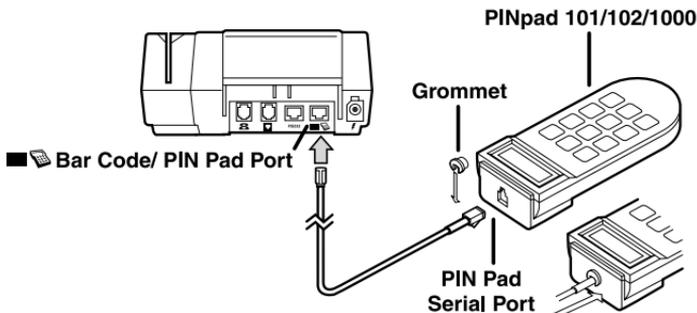
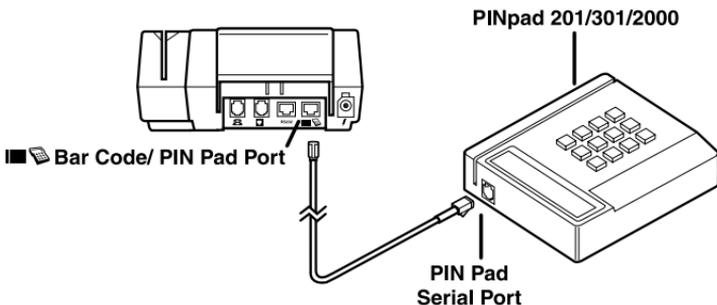

Figure 13 PINpad 101/102/1000 Connection
Figure 14 PINpad 201/301/2000 Connection
The Omni 3210 terminal comes with an internal PIN pad. In some cases, however, it may be necessary to install an external PIN pad to use instead of, or in addition to, the internal PIN pad, if necessary (see Figure 13 and Figure 14).
2. If you are installing a VeriFone PINpad 101, PINpad 201, or PINpad 1000, position and insert the grommet to secure the cable connection (see Figure 13).